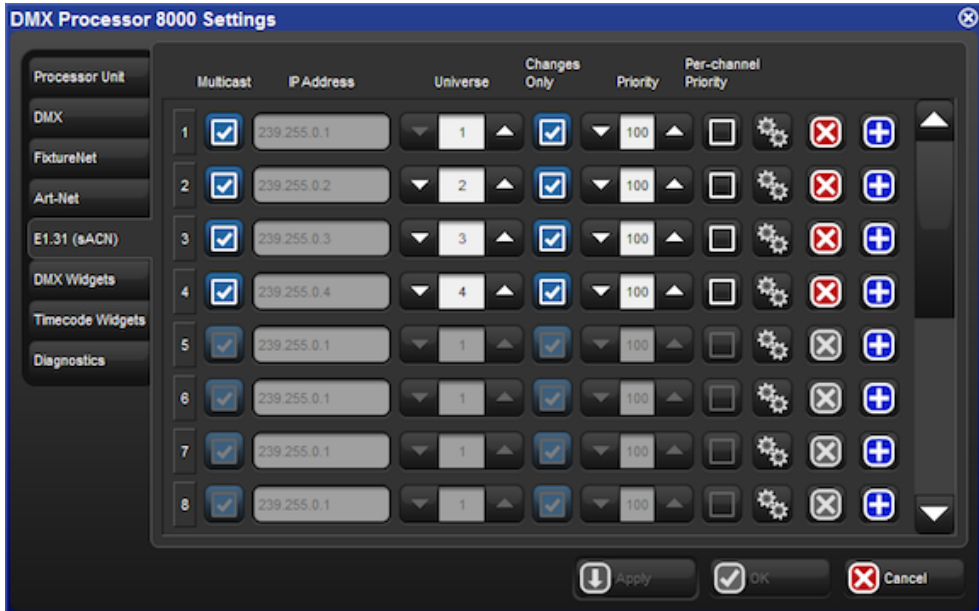

Figure 3.11. E1.31 pane of the DMX Processor Settings window
3. Select the E1.31 pane of the DMX Processor Settings window, see *Figure 3.11, “E1.31 pane of the DMX Processor Settings window”*.